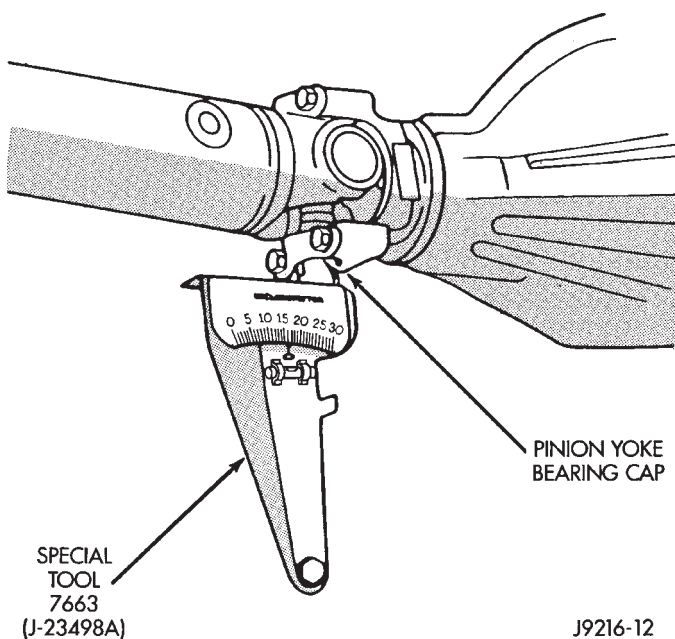

Fig. 12 Rear (Input) Angle Measurement (B)
(4) Subtract smaller figure from larger (C minus A) to obtain transmission output operating angle.
(5) Rotate propeller shaft 90 degrees and place Inclinometer on pinion yoke bearing cap parallel to the shaft (Fig. 12). Center bubble in sight glass and record measurement.